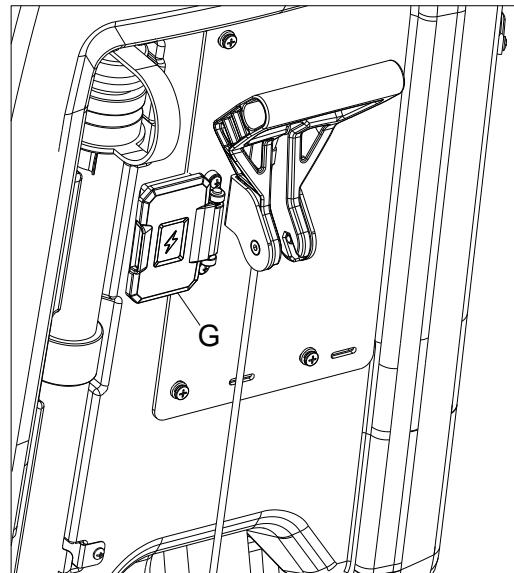

Figure 21
6. Connect the battery charger cable to the electrical mains (G, Figure 21) (the electrical mains voltage and frequency must be compatible with the battery. When the battery charger is connected to the electrical mains, all machine functions are automatically cut off).
7. When the battery charging is completed, disconnect the battery charger cable from the electrical mains (G).